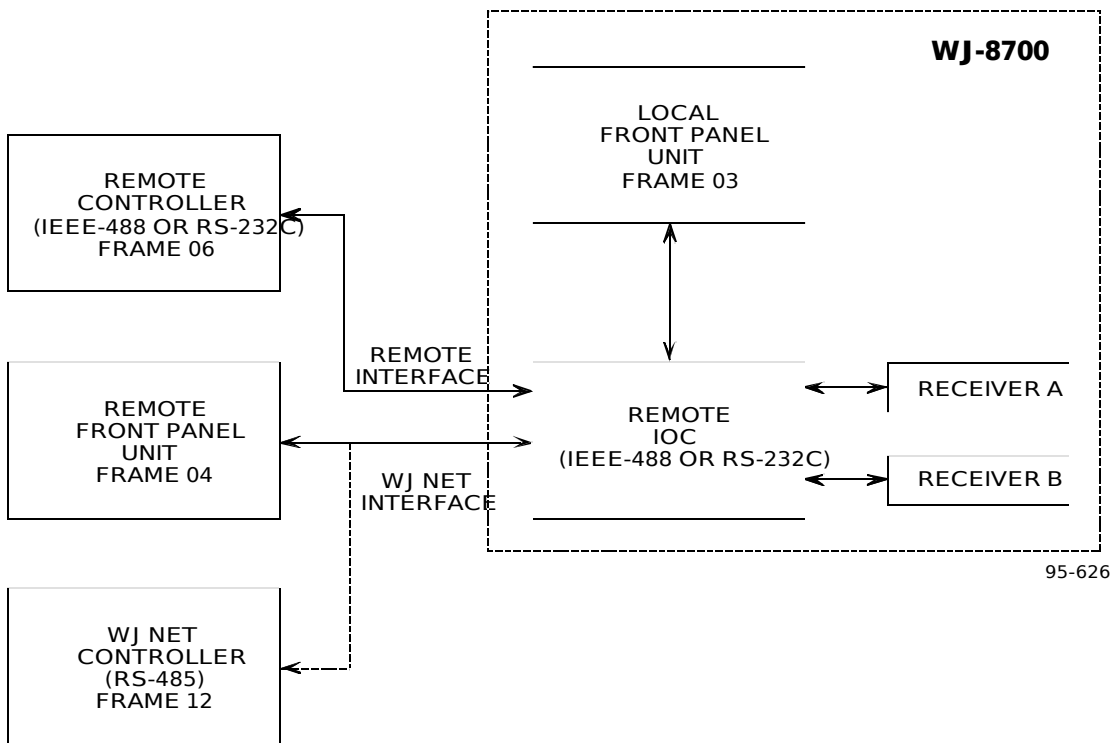

Figure 2-11. Example of WJ-8700 Functional Control Interface
Figure 2-11 illustrates the manner in which a dual receiver unit is functionally connected to a resident Front Panel, and via the remote IOC to an external controller and the WJ NET. The following paragraphs describe the manner in which the token concept is implemented.
1. A Front Panel Unit (FPU) attempts to take control of Receiver A by sending a token request (see **Table 2-16**). In the example shown in **Figure 2-11**, the local FPU would request a token of 03, which is the local FPU's frame number.
3. If Receiver A is not in use, it will respond to the token request with "Token 03," which informs the local FPU that it now has control of Receiver A. Note that Receiver B is available for control by either the remote front panel or one of the two external controllers shown in **Figure 2-11**.